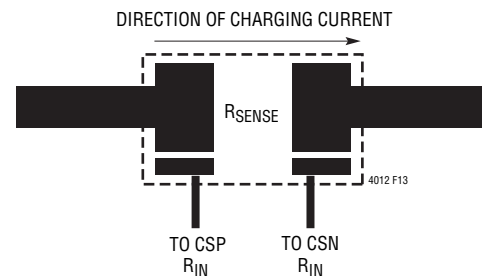

Figure 13. Kelvin Sensing of Charge Current
- For best current programming accuracy, provide a Kelvin connection from R_{SENSE} to CSP and CSN. See Figure 13 for an example.